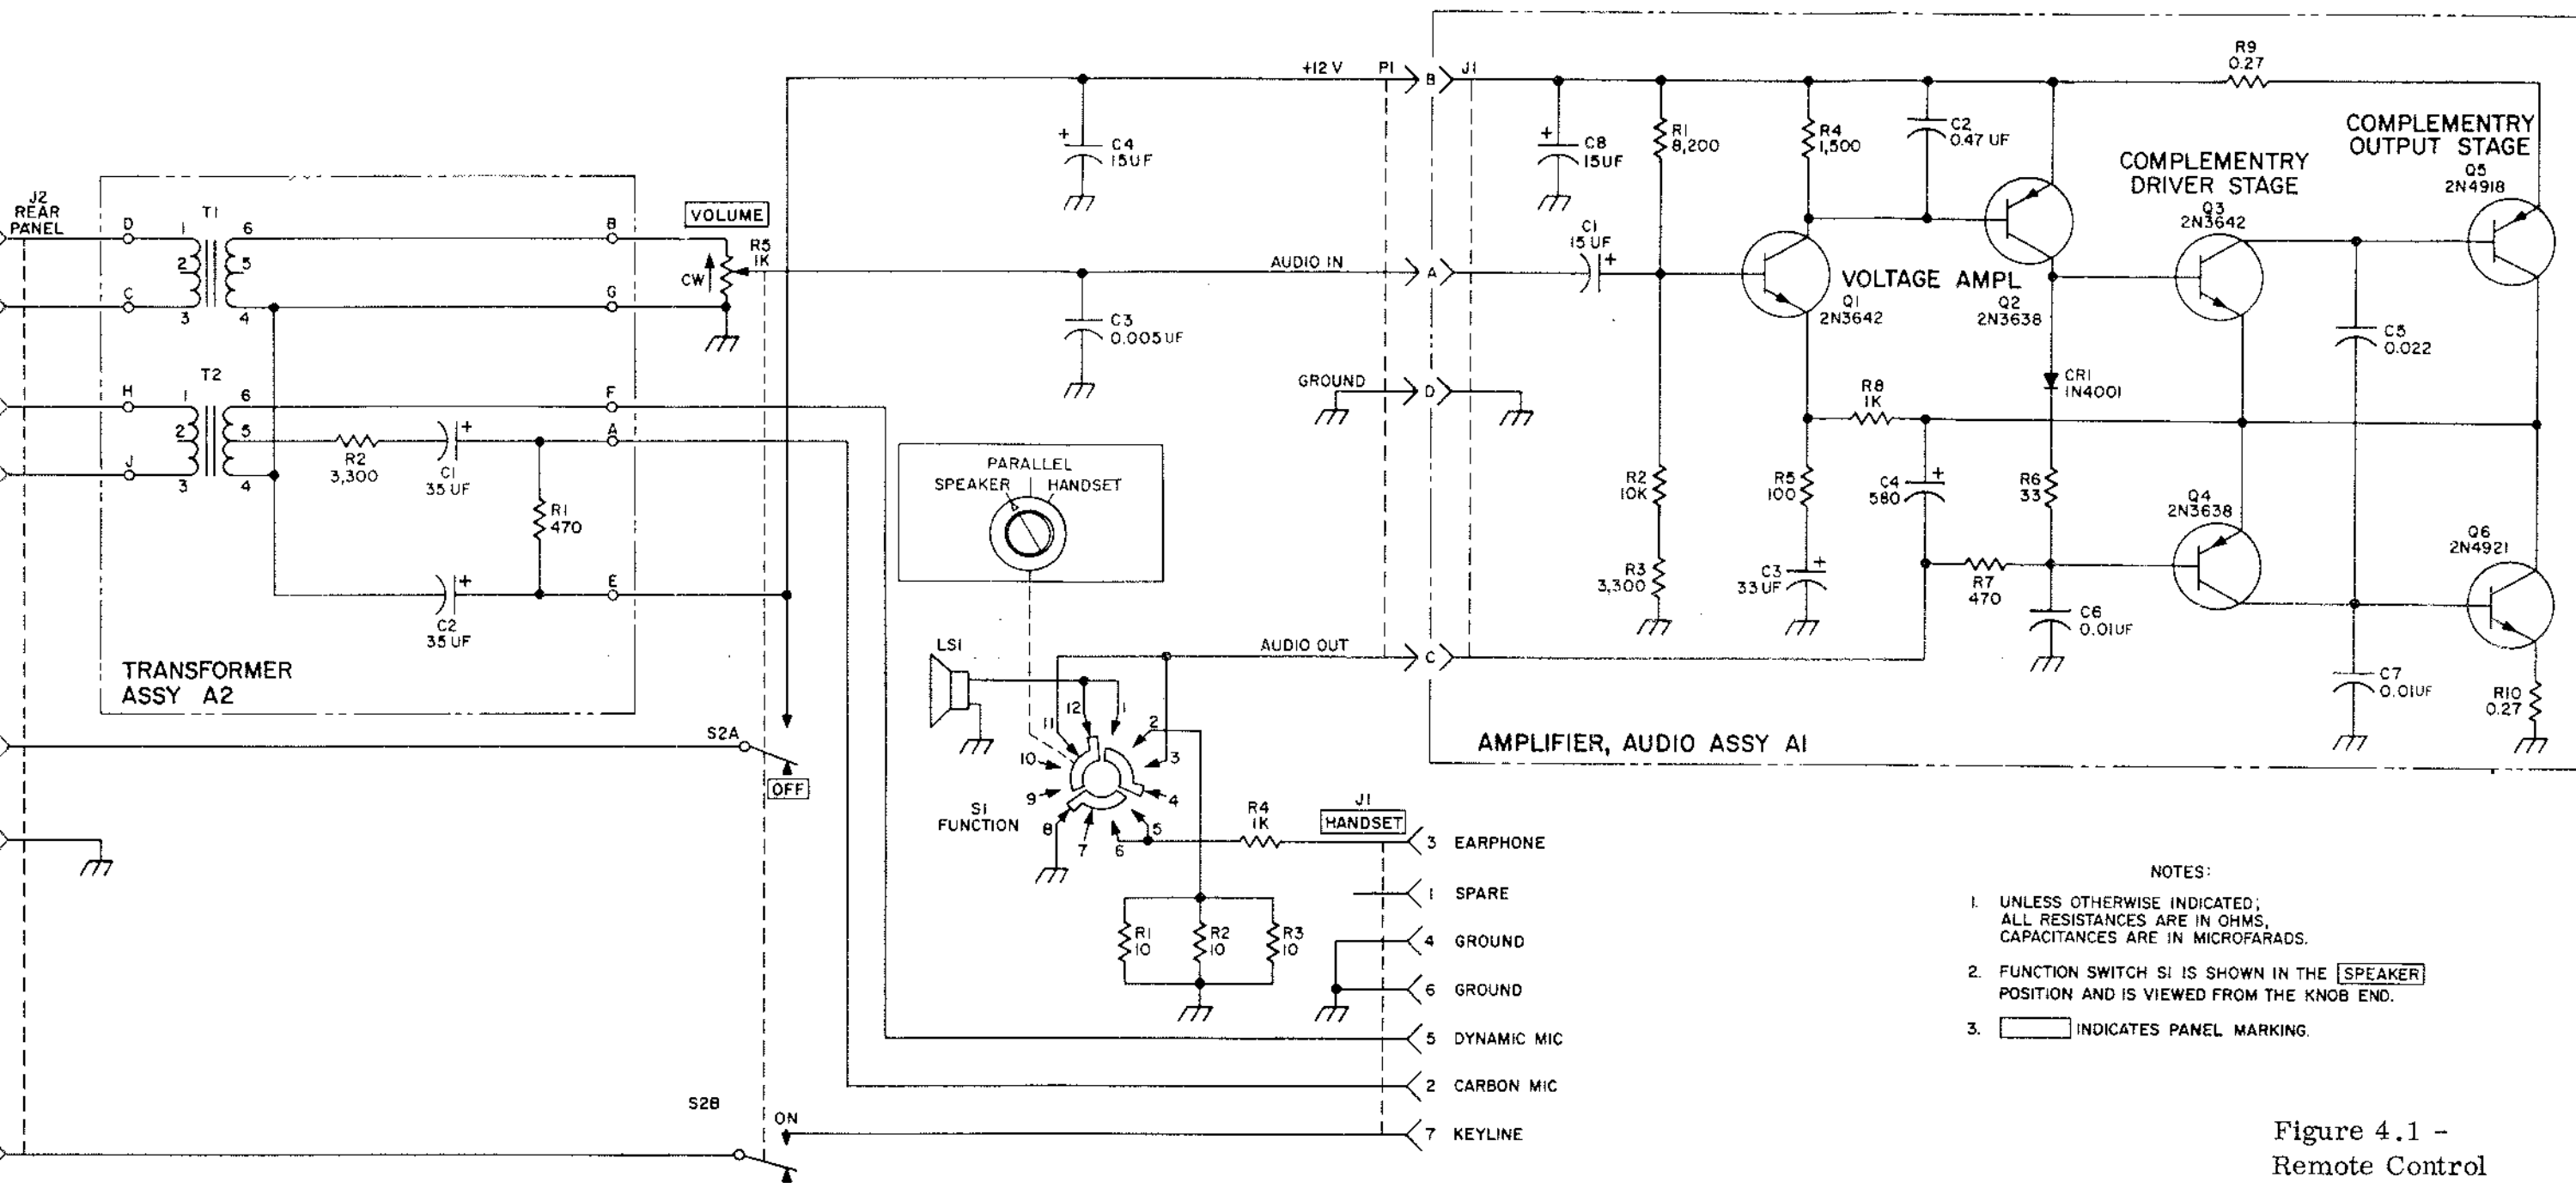

Figure 4.1 -
4.2 PRINCIPLES OF OPERATION. (Refer to schematic diagram figure 4.1).